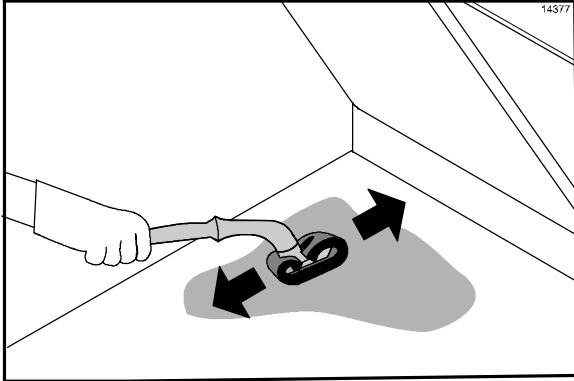

Figure 107
39. Use the cleaning pad holder to lightly scrub the lower grill surfaces until all soil has been liquified by the grill cleaner. For stubborn soils, apply additional grill cleaner and lightly scrub. (See Figure 107.)